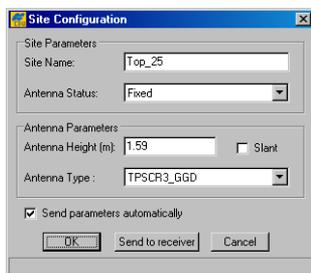

Figure 3-13. Site Configuration Dialog Box
4. Click the **Site parameters** button. The *Site Configuration* dialog box will appear (Figure 3-13).